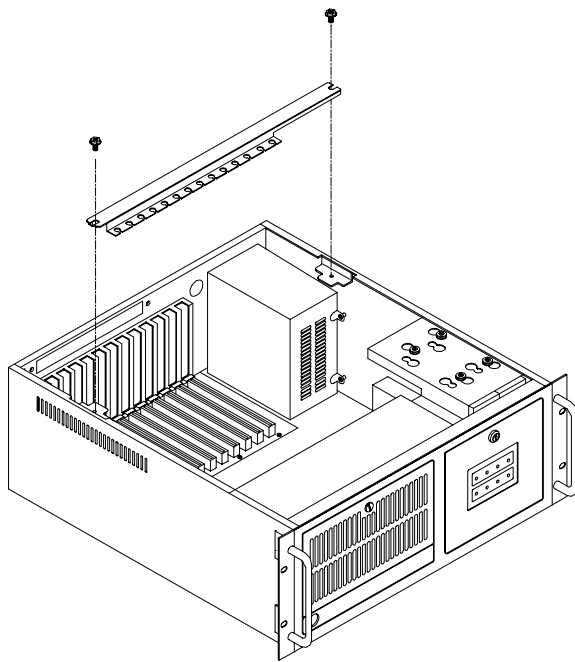

Figure 2-5: Detaching the hold-down clamp
1. Detach the hold-down clamp by removing the two screws located at each end, and lifting it off the chassis. See Figure 2-5 below.